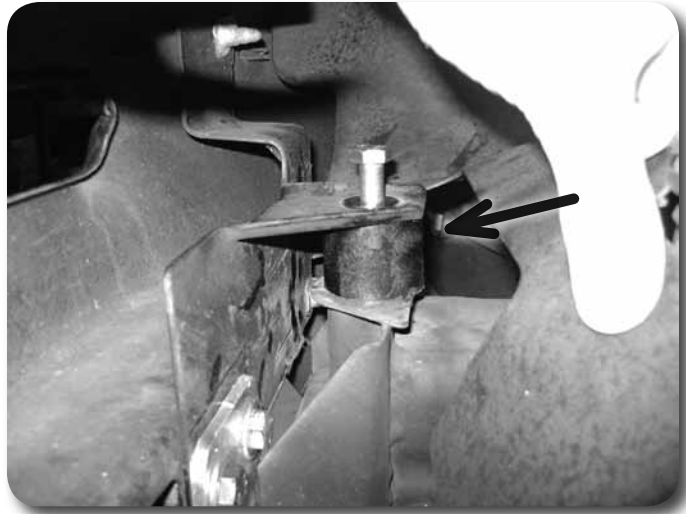

Figure 24A
46. Locate the provided 2" diameter x 1-1/2" tall bumper spacers. Slide the bumper in place over the frame rails and place the spacers between the upper bumper mount tab and upper frame mount. Align the mounting holes in the bumper, frame and spacer. Loosely fasten with the provided 12mm x 70mm bolts and 1/2" washers. Figure 24A